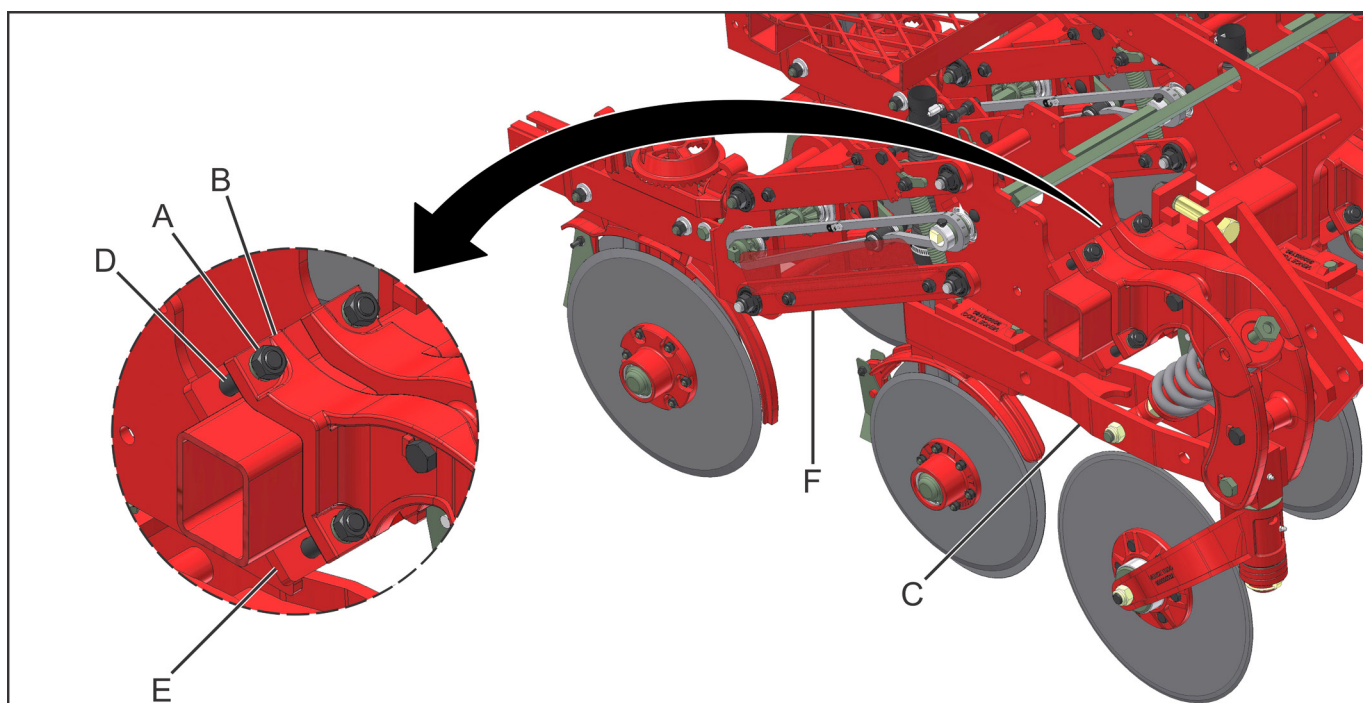

fig. 05
- 4- Loosen the nuts (A) (fig. 05) of the support clamps (B) of the fertilizer row (C). Then, loosen the bolts (D) of the stop (E);
- 5- Adjust the complete fertilizer row unit (C) and the seed row (F), according to the desired spacing;
- 6- Re-tighten bolts (D) and nuts (A) to keep the adjusted spacing;